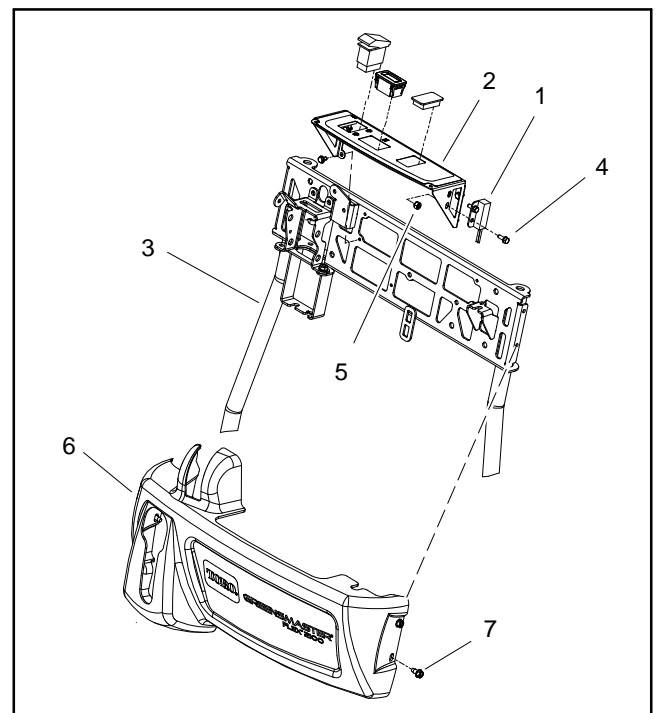

Figure 8
2. Remove console cover from handle to allow access to parking brake latch switch (Fig. 8).
2. Remove screws and lock nuts that mount switch to switch panel on handle (Fig. 8). Remove switch from machine.
3. Position switch to switch panel and secure with screws and lock nuts (Fig. 8).